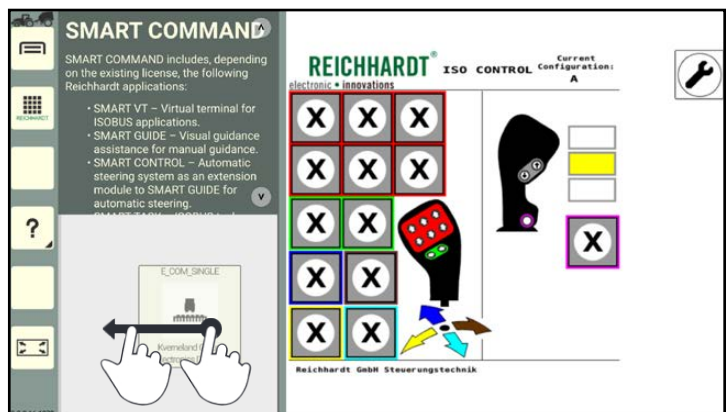

Fig. 75: Dragging the application into the required window
The operating mode is automatically displayed with the windows (see Fig. 75).
2. Drag the application into any window (see Fig. 75).